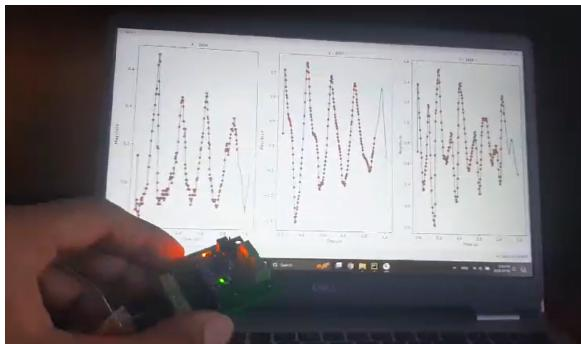

Figure 3.6
- Figure 3.6 - Sensor picking up and plotting periodic oscillatory movement of hand.